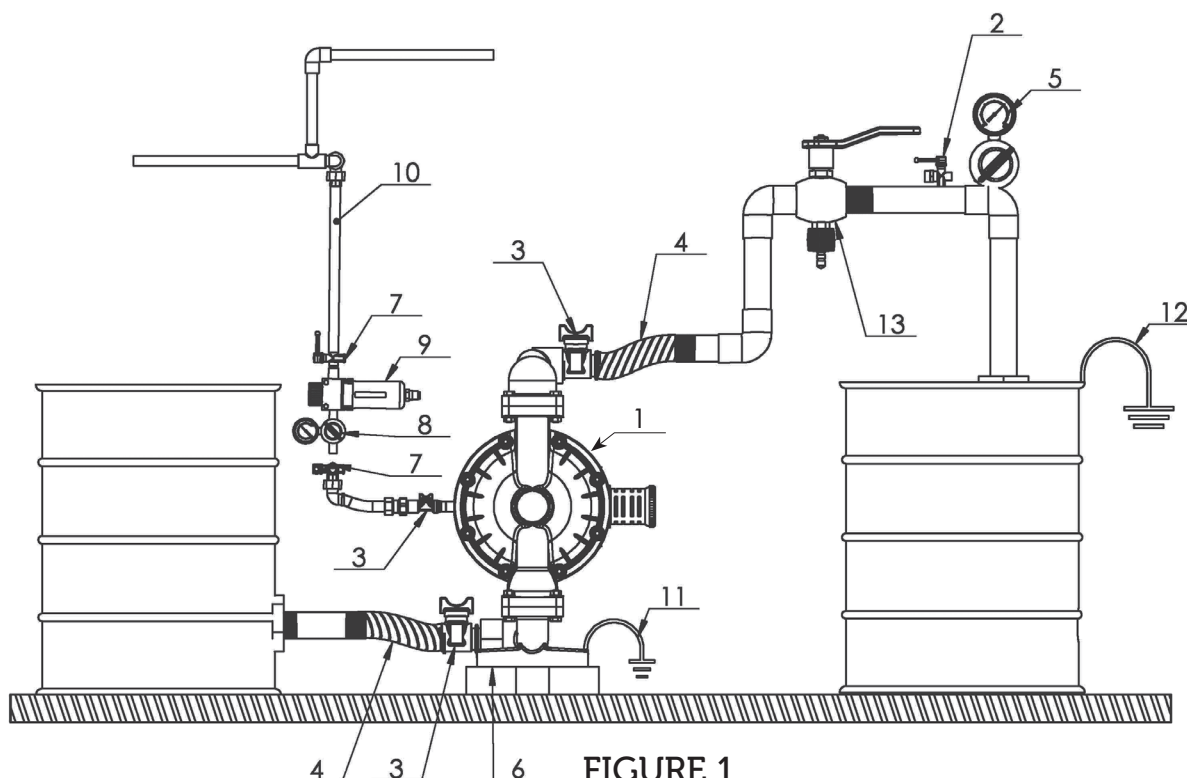

FIGURE 1
Installation of the diaphragm pump is simple. However, if installation characteristics recommended by the Manufacturer Company are considered, working life of the pump shall be long and have high efficiency. (See Figure 1).
- The following (Figure 1) installation diagram is for providing information and guidance to the user on installation of the pump. It guides the user of the pump to install its own system in line with its needs. Consult to VESTAPOMP or authorized dealer for more information and document.
Pressure from the air line connected to the pump shall not exceed 7 bar. Install the air line pipe with a diameter which is not less than the connection diameter to ensure required efficiency of the pump. Air line connection size is $\frac{3}{4}$ in VP 30 type pump. Install air line of the pump as shown in **Figure 1**. Ensure that the air line between the main air line and the pump is flexible. Place a cut-off valve (ball valve) before the air line coming to the pump. Close air inlet from this valve when necessary or if pump air is cut off.
- Make air line connection as shown in **Figure 1**. Connect accessories to the wall or to a fixed place. Make sure that air line conducts electricity.
CAUTION The air trapped between the air line connected to the diaphragm pump (number 3 in figure 1) and the pump itself must be discharged. Otherwise, the trapped air causes unintended start of the pump. This may cause accidents and poisoning due to moving parts.
- Place ball cut-off valve before the compression line in a way to be close to the pump. (See Figure 1)
- Place a manometer in the upstream of the discharge line read the pressure. (See Figure 1)
- Ensure that the flexible and main line pipes to be connected to the discharge line are conductive. Ground the pipes if the pipes are not conductive. (See Figure 1)